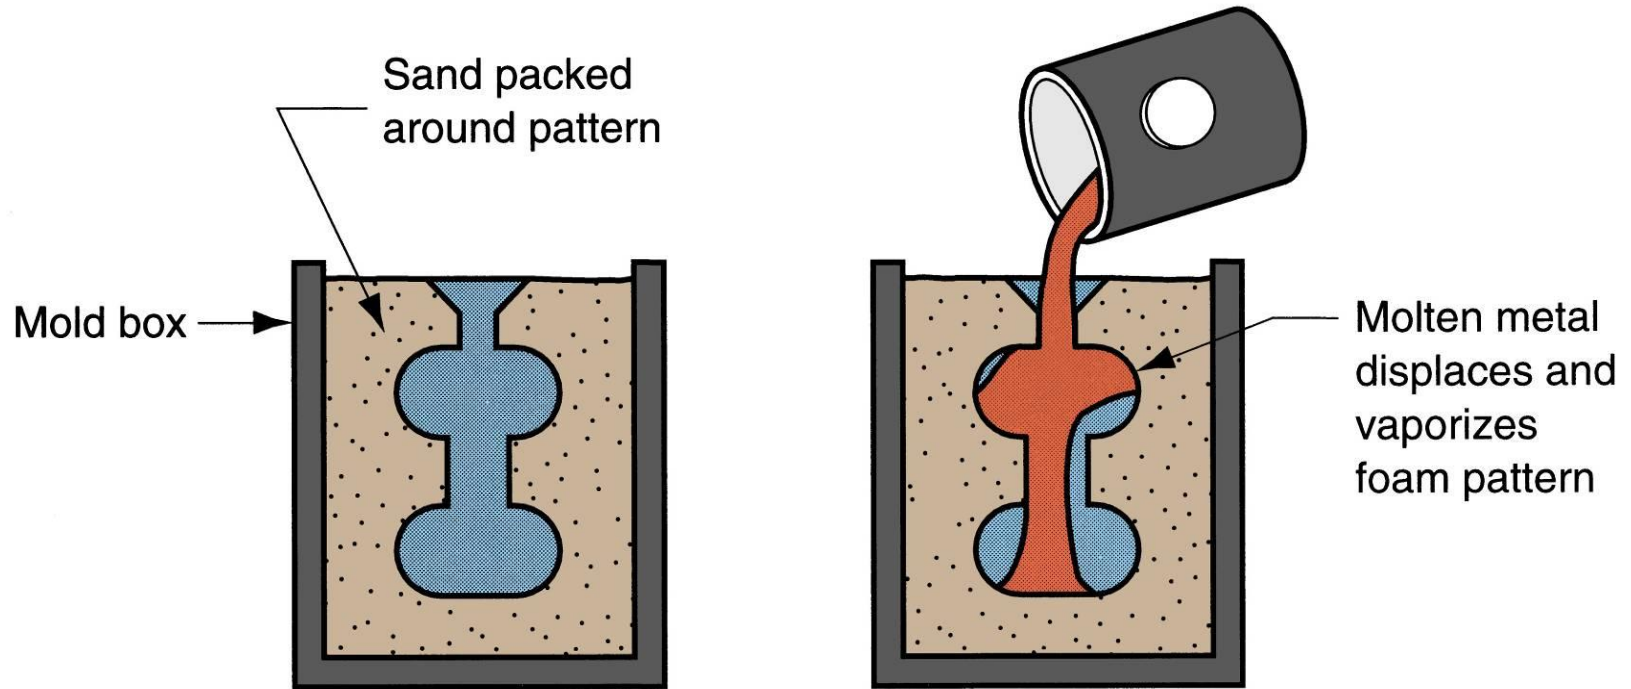

Figure 11.7 Expanded polystyrene casting process: (2) foam pattern is placed in mold box, and sand is compacted around the pattern;
Figure 11.7 Expanded polystyrene casting process: (3) molten metal is poured into the portion of the pattern that forms the pouring cup and sprue. As the metal enters the mold, the polystyrene foam is vaporized ahead of the advancing liquid, thus the resulting mold cavity is filled.